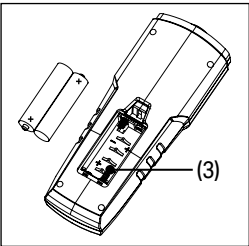

Fig. 3
2. Then unclip the battery compartment (3). Fig.3.
- **Note:** Change the battery when the battery indicator (E) shows low power on the screen.